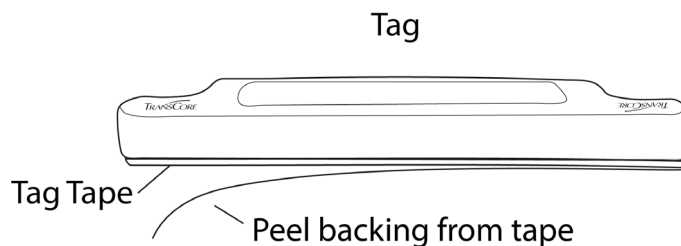

Figure 6 – LPT with VHB Double-Sided Tape
3. Remove the backing from the VHB double-sided adhesive tape on the back of the tag, as shown in Figure 6.